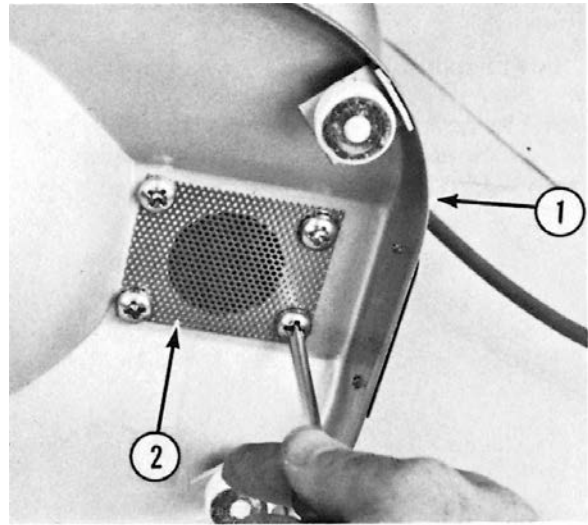

Fig. 5-7
F. Install the base (1, Fig. 5-7) and air screen (2, Fig. 5-7) (four screws).